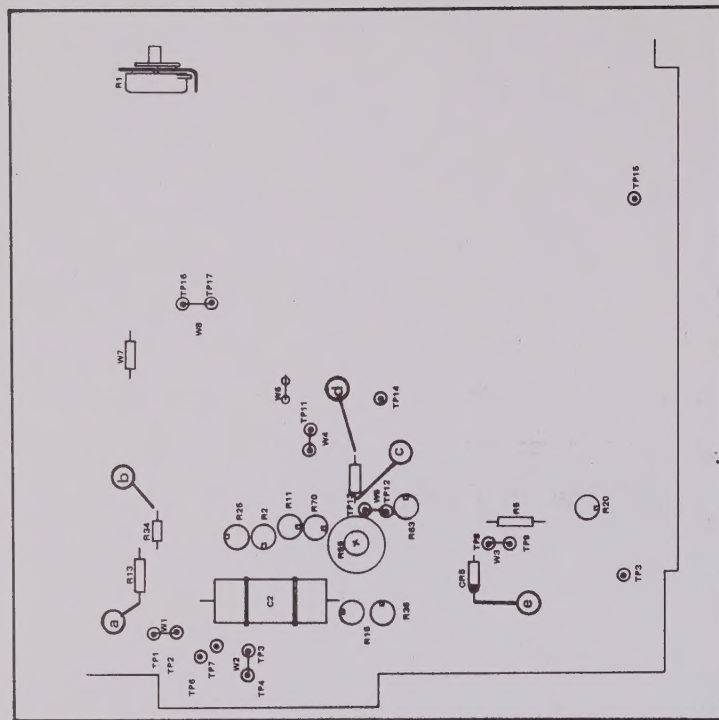

Figure 2. Locations, Digitizing & Display
- (d) Connect a jumper from the junction of R13 and the base of Q3 (point a on figure 2.) to TP6.
- (h) Connect the positive input of the microvoltmeter in series with the 51K ohm isolation resistor to the top of C2 (figure 2.). Retain the low side at TP6.